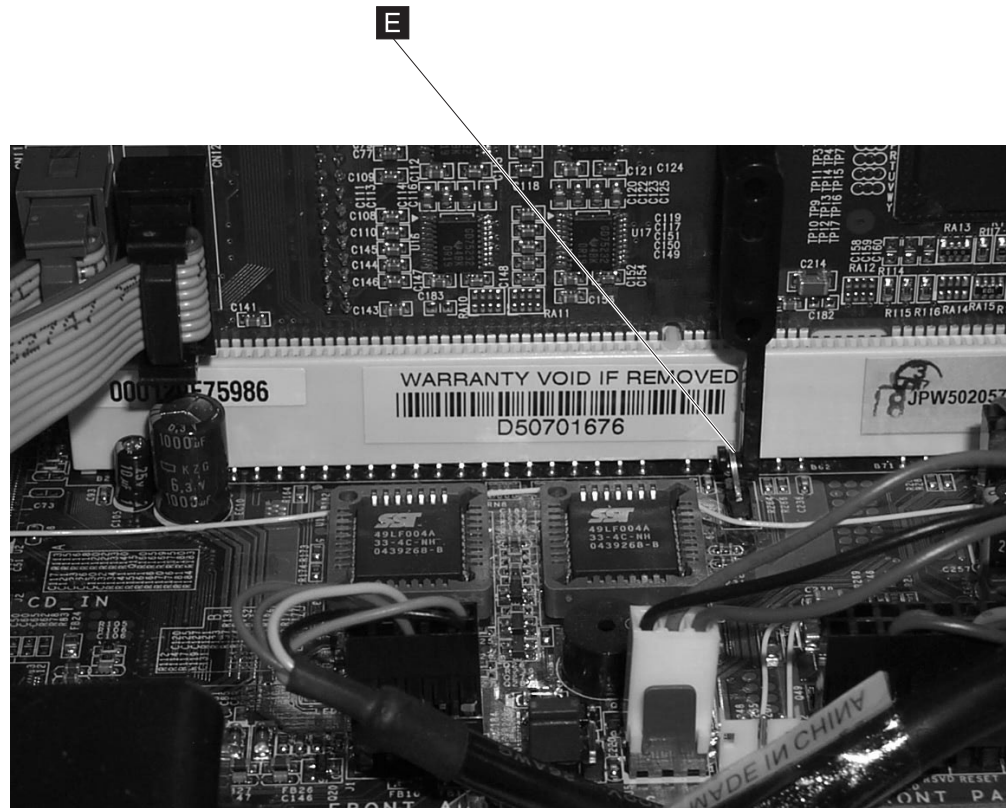

Figure 43. Riser card latch
9. Release the mechanical latch (see **E** in Figure 43) retaining the riser card as follows: